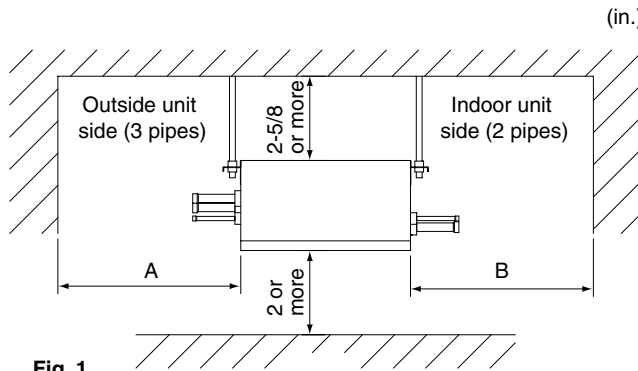

Fig. 1
- Where sufficient clearance for maintenance and service can be ensured. (**Refer to Fig. 1**)